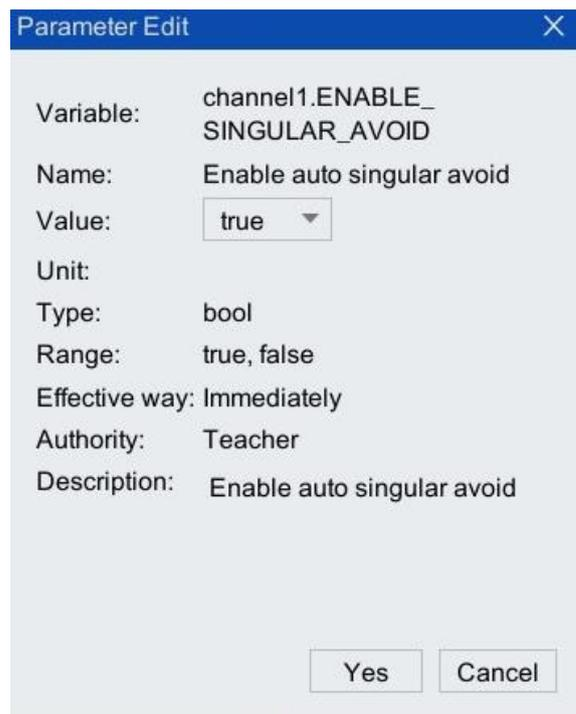

Figure 10-6 Parameter setting page
Step4. In the parameter configuration page that pops up, configure the value of [Value]. true means on, false means off, and the default value is false. As shown in Figure 10-6.